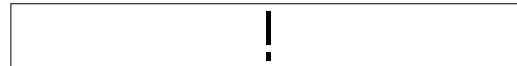

Figure 11-617
1. If bit 4 of the DIP switch (SW5-4) on the copy data controller is set to OFF, group control is disabled, and an exclamation mark will appear (Figure 11-617).